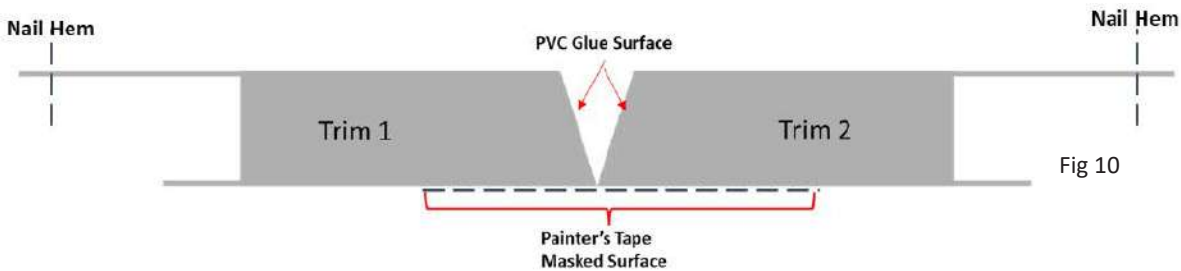

Fig 10
- Using PVC glue to bond the joint together, ensure no adhesive gets on the face of the casing (Fig 10).